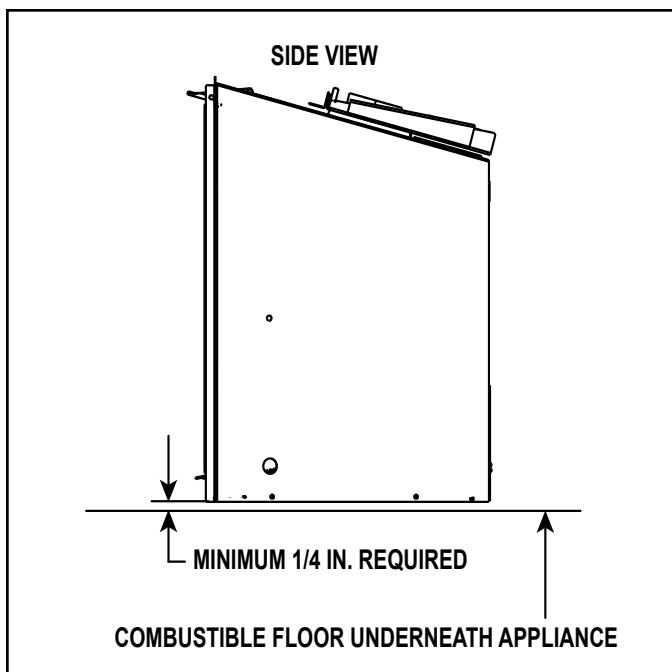

Figure 3.7 Solid Fuel Floor Clearance
- A minimum 1/4 inch gap from the bottom of the appliance to the metal floor of the solid fuel firebox is **REQUIRED**. See side view in Figure 3.7.